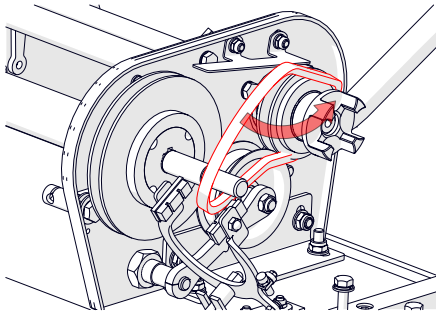

Fig.15F - Replace drive belt.
7. Remove the belts and replace (if required) (Fig.15F).